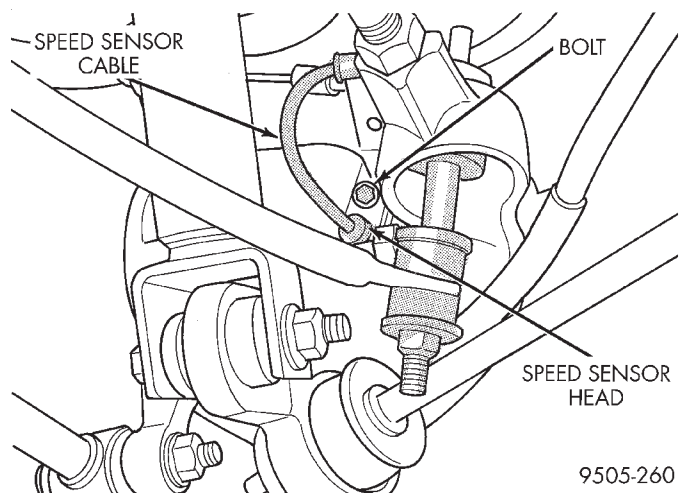

Fig. 20 Speed Sensor Head Attachment To Brake Support Plate
(6) If vehicle is equipped with ABS brakes, install speed sensor head into rear brake support plate (Fig. 20). Torque speed sensor head mounting bolt to 7 N·m (60 in. lbs.).